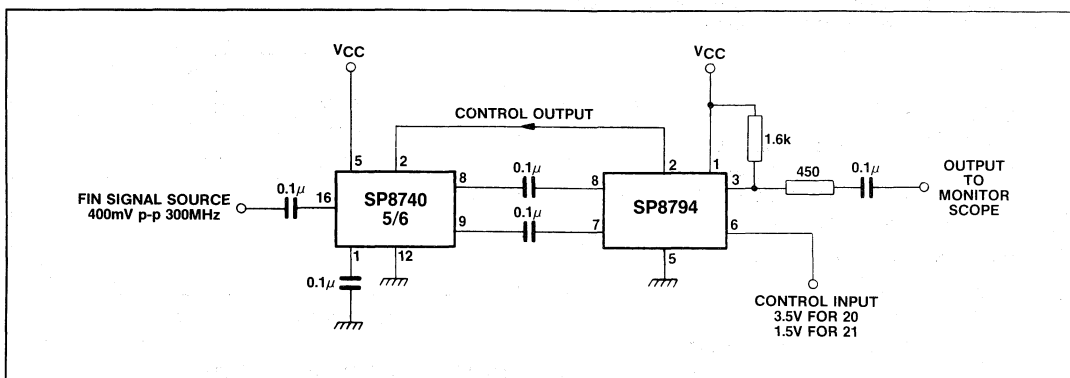

Fig.4 Test circuit
2. The test configuration for dynamic testing is shown in Fig.4.
1. The device will normally be driven by capacitively coupling the clock inputs to the outputs of a 2-modulus divider. See Figs. 4 and 5. The maximum frequency of the device when used as a controller is limited by the internal delays and will not operate above 60MHz. When used as a prescaler the device will operate in excess of 120MHz, the maximum frequency being limited by saturation of the counter output stage.